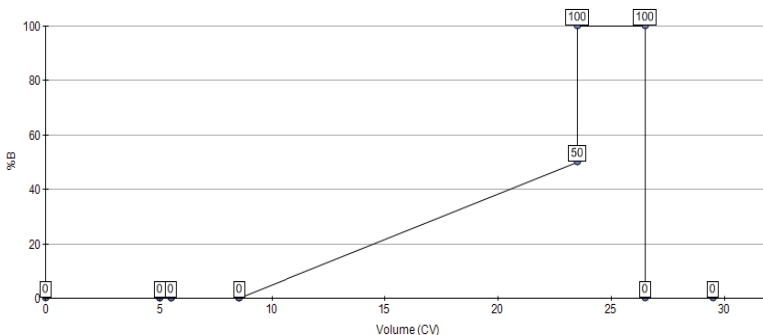

Fig. 1. Schematic gradient for separation on an ENrich IEX column. Volume, column volume.
- Follow this segment of the gradient by stepping the salt concentration to 1.0 M (100% B) and then hold at 1.0 M for 3 ml before re-equilibrating the column with 3 ml of start buffer A. This gradient is shown schematically in Figure 1. When an initial separation has been performed and the elution position of the protein of interest determined, the gradient composition and volume are adjusted to achieve maximum resolution. Normally, a gradient volume of 10 to 20 ml per ml of column bed volume is sufficient.